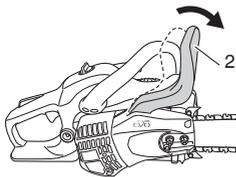

Fig. 13
1. Push the front hand guard (2) so that the brake is engaged. (Fig. 13)